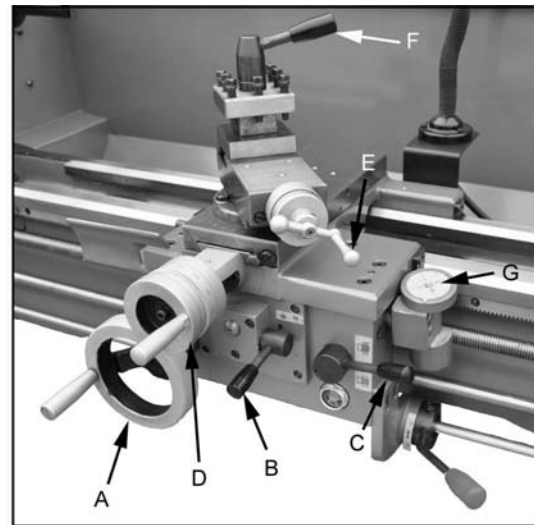

Figure 14
14. **Longitudinal Traverse Hand Wheel** (A, Fig. 14) – Rotate hand wheel clockwise to move the apron assembly toward the tailstock (right). Rotate the wheel counterclockwise to move the apron assembly toward the headstock (left).
15. **Feed Selector** (B, Fig. 14) – Push lever to the left and down to activate the crossfeed function. Pull lever to the right and up to activate the longitudinal function.
16. **Half Nut Engagement Lever** (thread cutting) (C, Fig. 14) – Move the lever down to engage. Move the lever up to disengage.
17. **Cross Traverse Handwheel** (D, Fig. 14) – Clockwise rotation moves the cross slide toward the rear of the machine.
18. **Compound Rest Traverse Handwheel** (E, Fig. 14) – Rotate clockwise or counterclockwise to move or position.
19. **Tool Post Clamping Lever** (F, Fig. 14) – Rotate counter-clockwise to loosen and clockwise to tighten. Rotate the tool post when the lever is unlocked.
20. **Threading Dial** (G, Fig. 14) – Engage by pushing into the leadscrew. Pull out to disengage. The dial indicator and chart will specify at which point a thread can be entered.